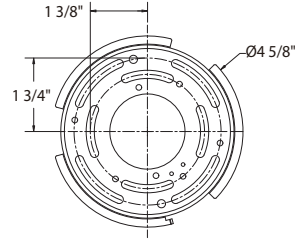

Fig. 4 Switch
3. Remove the anti-rotation screw (B) from the fixture. Remove the ceiling plate from the canopy.
4. Set color temperature at this stage. The lamp can switch between three color temperatures (3000K-3500K-4000K), which can be adjusted to your preference with the switch on the mounting plate (Fig.4).